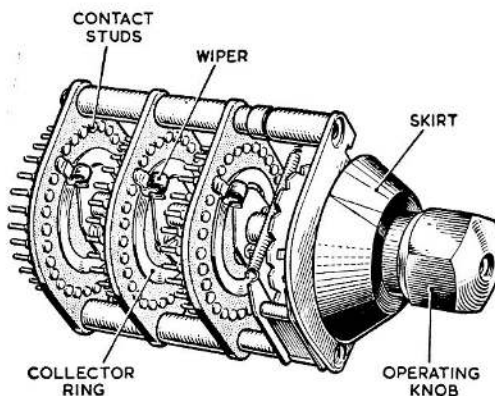
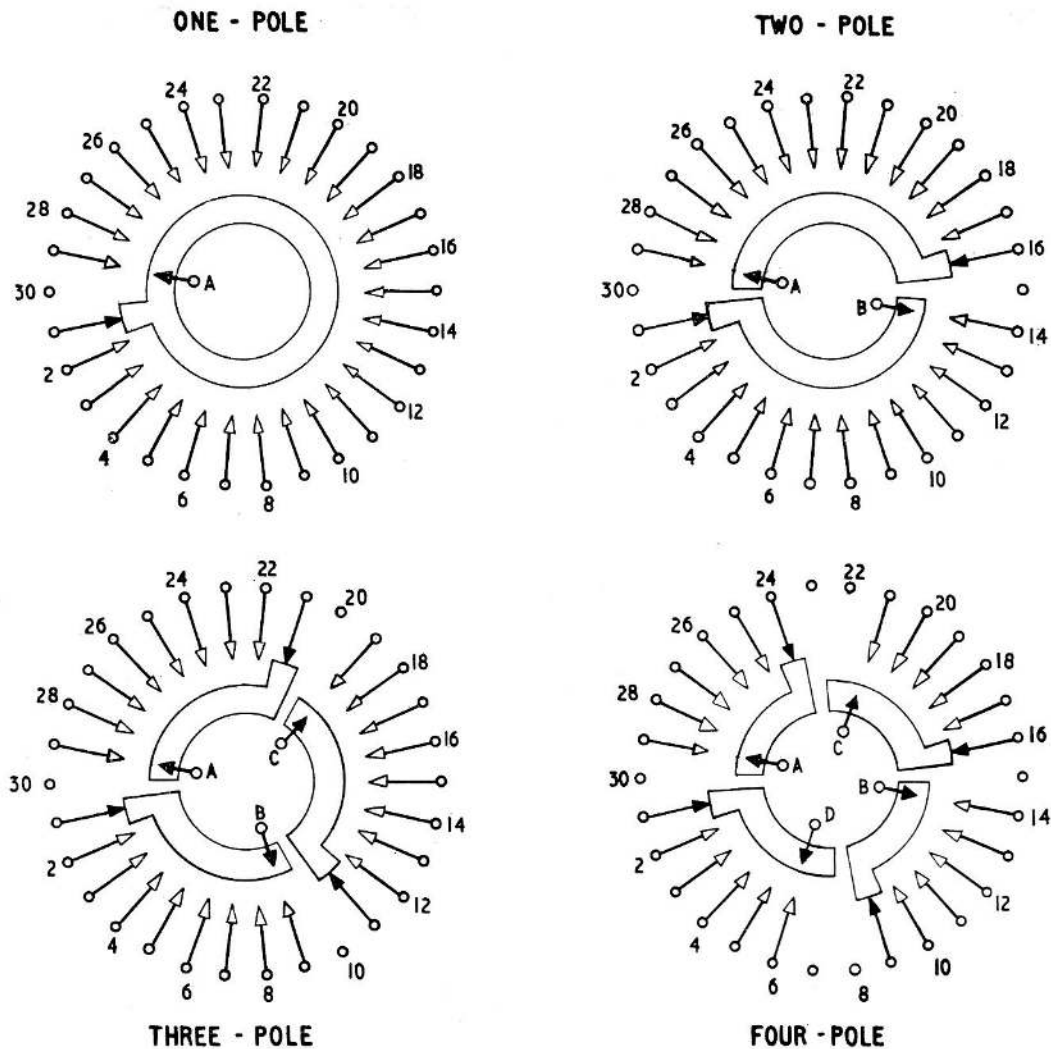

Fig. 1. Typical rotary switch
Fig. 2. Contact arrangements (make-before-break)
2. A general view of a typical switch is shown in fig. 1, and the contact arrangements in figs. 2 and 3. The switch consists of a number of banks operated from a common spindle.
3. Three types of spindle are available. Spindle A is designed for use with a hexagonal knob (fig. 1) and has a 6 B.A. tapped hole in it. The B type of spindle is suitable for the fixing of extension spindles. Spindle C has an $\frac{1}{8}$ in. dia. hole drilled diametrically through it.